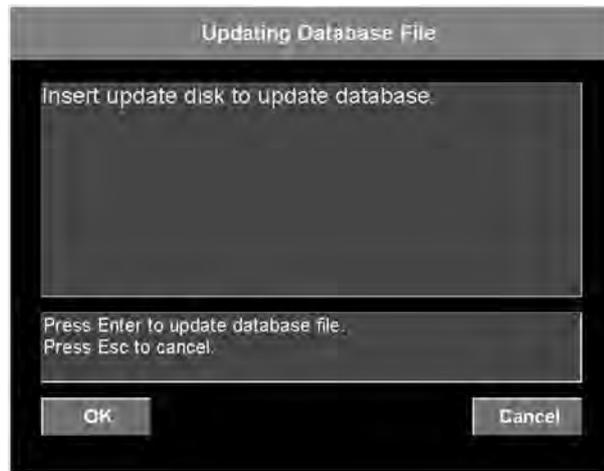

Fig. 13
6. Click the **OK** button or press the Enter key on your keyboard to start copying the database files. (Fig. 13)